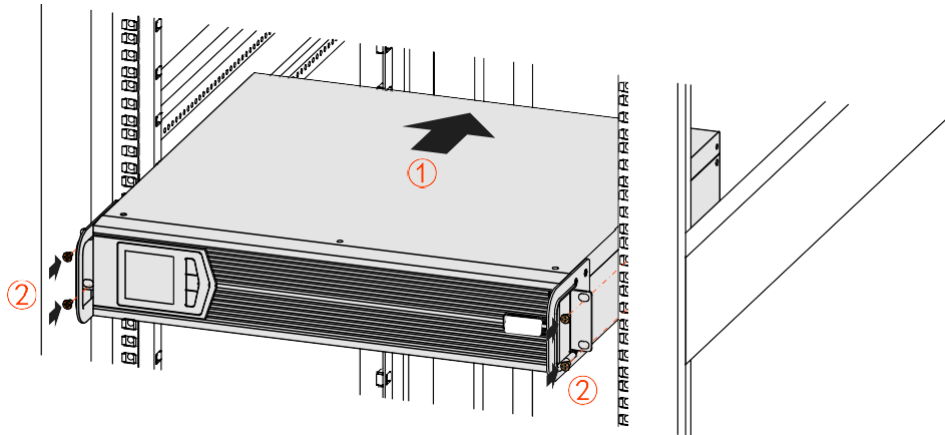

Figure3-2 Fasten the UPS
Step 2 Push the UPS into the cabinet, and fasten it by screws, as shown in Figure3-2.